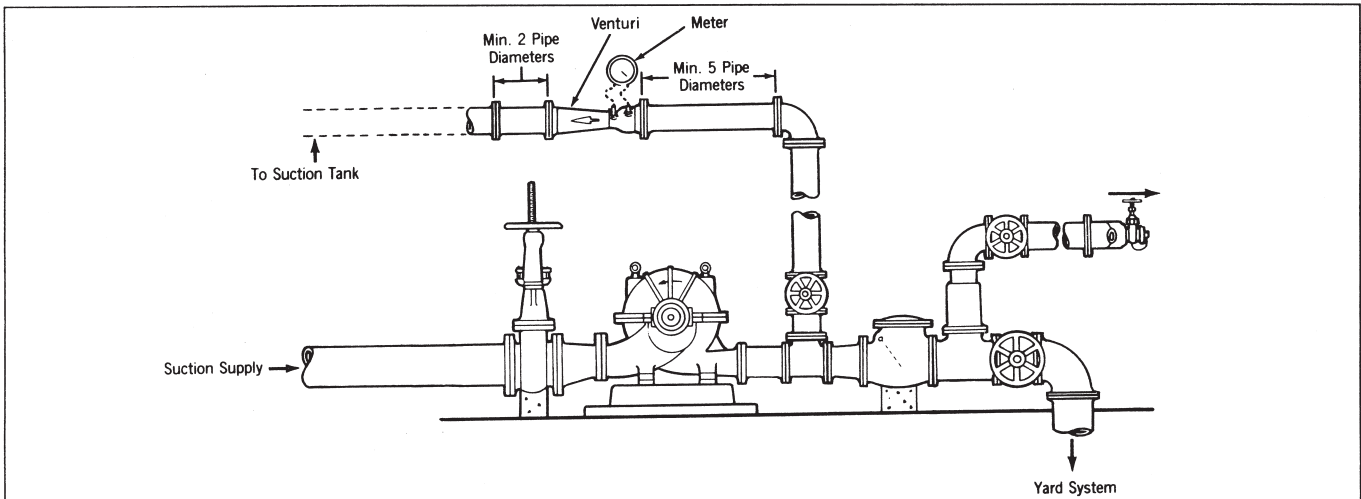

Figure 9. Typical FM venturi application from suction tank supply.
Refer to NFPA No. 20 for installation and testing of firepump stations. Appendix A, Figure A-2-10.2.1 (C) and A-2-10.2.1 (D) of NFPA 20, shows schematically the arrangements that may be used in applying flow measurement devices to the firepump station. Figure 9 and 10 are pictorial references of these schematics.